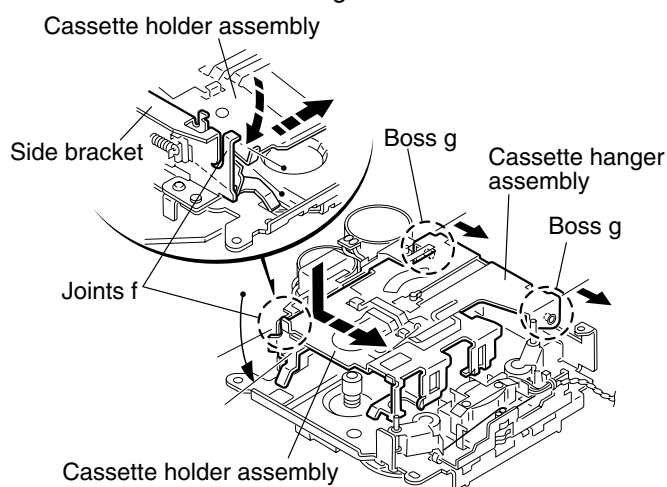

Fig.6
■ Removing the cassette hanger assembly / cassette holder (See Fig.6 to 9)